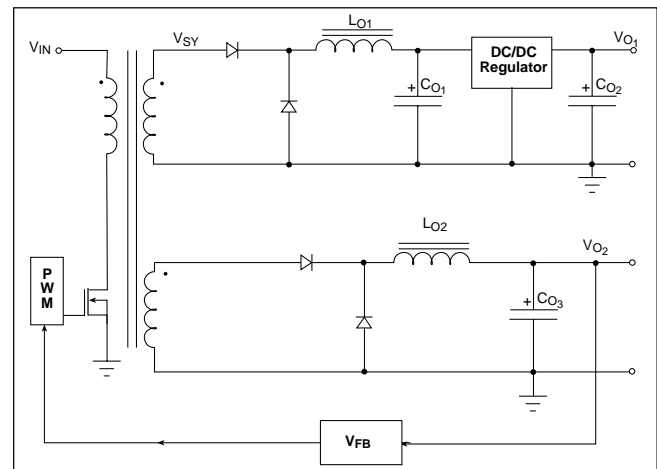

Figure 2. Switching Post Regulator
2. A Step-Down Buck Regulator, Figure 2, can be used as a post regulator. Efficiencies up to 90% can be achieved by using this method. This solution looks very attractive in the low and medium power range (3A to 8A). However, several additional high cost components are required, including, a power switch, inductor and capacitors.